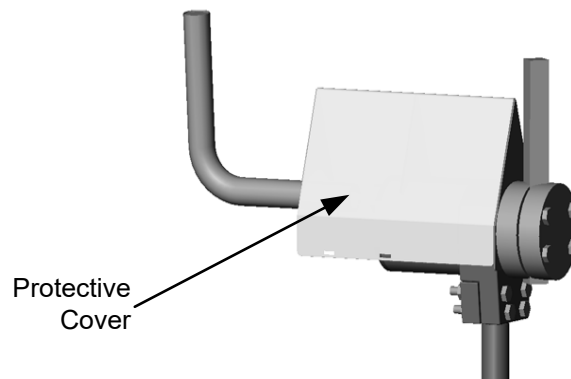

Figure 3: Protective cover placed over the Head Unit
- A protective cover can be placed over the Head Unit to protect the sensor from falling materials and prevent unnecessary build-up of materials on the Head Unit (Figure 3).